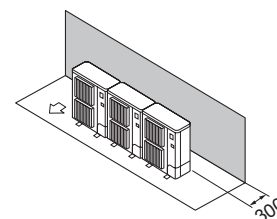

Fig. 2-12
- ① Kun forhindringer bagved (Fig. 2-12)